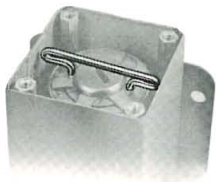

Fig. 1
2. In the unsealed units the adjustment is made by removing the cover plate secured by four holding screws and turning the adjusting wire key (see Fig. 1) clockwise to increase time, counter-clockwise to decrease.